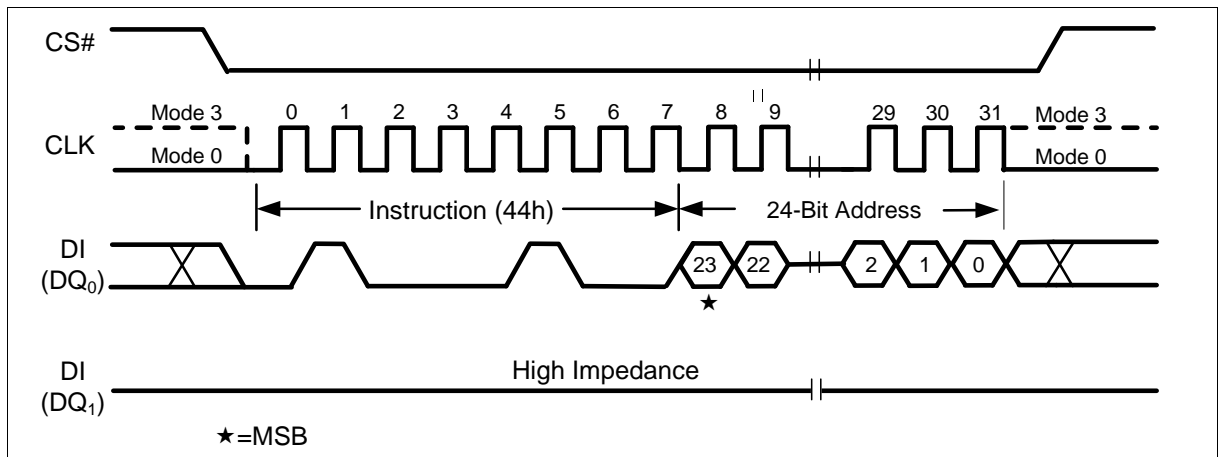

Figure 53 Erase Security Sector Instruction (SPI Mode only)
The Erase Security Sector instruction sequence is shown in Figure 53. The CS# pin must be driven high after the eighth bit of the last byte has been latched. If this is not done the instruction will not be executed. After CS# is driven high, the self-timed Erase Security Sector operation will commence for a time duration of  $t_{SE}$  (See “12.6 AC Electrical Characteristics”). While the Erase Security Sector cycle is in progress, the Read Status Register instruction may still be accessed for checking the status of the WIP bit. The WIP bit is a 1 during the erase cycle and becomes a 0 when the cycle is finished and the device is ready to accept other instructions again. After the Erase Security Sector cycle has finished the Write Enable Latch (WEL) bit in the Status Register is cleared to 0. The Security Sector Lock Bit (LB) in the Status Register-2 can be used to OTP protect the Security Sectors. Once the LB bit is set to 1, the Security Sector will be permanently locked, Erase Security Sector instruction will be ignored.